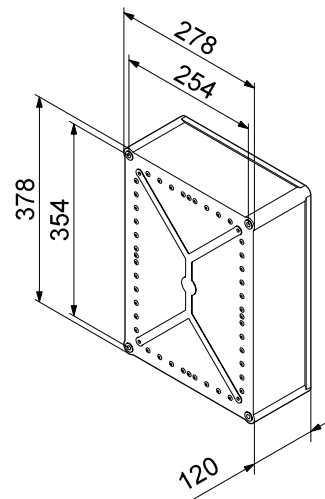

Fig. 6
- with four screws through the mounting holes in the back plate of the cabinet, see fig. 6. The mounting holes must be bored with a 4 mm bore. Fit the screws into the mounting holes and tighten securely. Fit the plastic caps supplied with the controller on the screws (IP 55).
Fig. 6 shows the dimensions of the controller cabinet for wall-mounting.